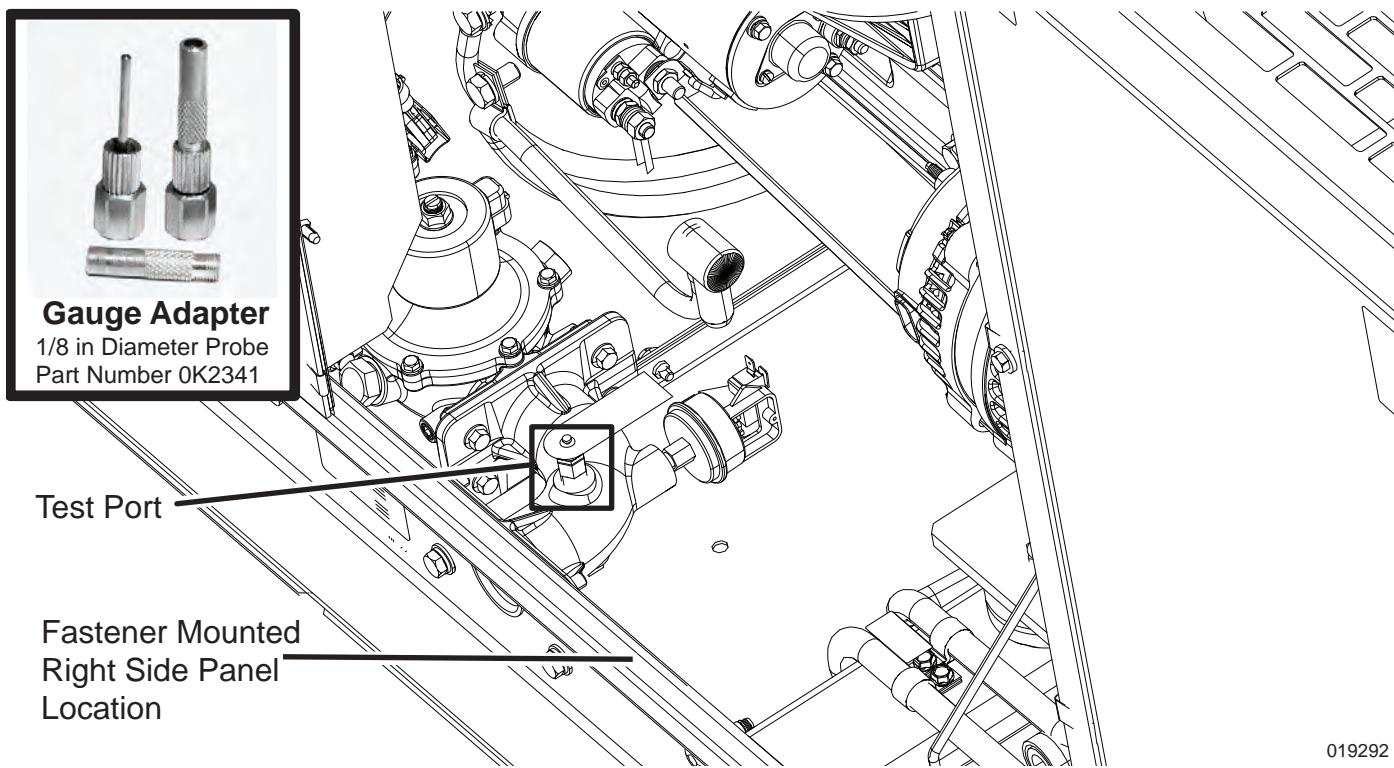

Figure 4-5. Fuel Pressure Test Point
1. See Figure 4-5. Using a suitable pressure gauge or water manometer, measure fuel pressure to generator at a test port (if equipped) located at fuel solenoid shutoff valve(s).